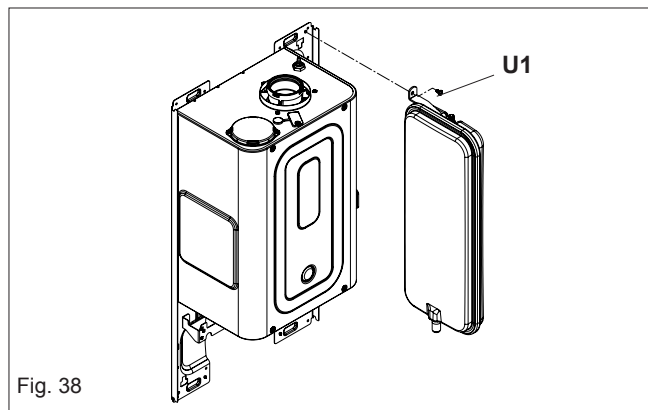

Fig. 38
6.18 EXPANSION VESSEL REMOVAL (fig. 38)